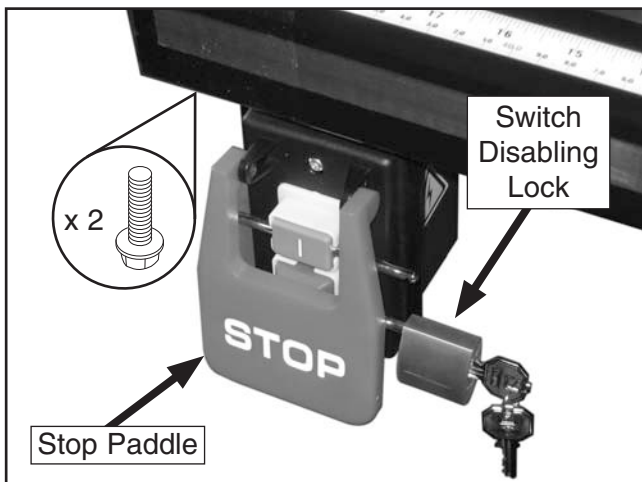

Figure 38. Switch installed.
- Fasten the switch to the left end of the front rail with (2) M8-1.25 x 12 flange bolts, then insert the switch disabling lock, as shown in **Figure 38**.